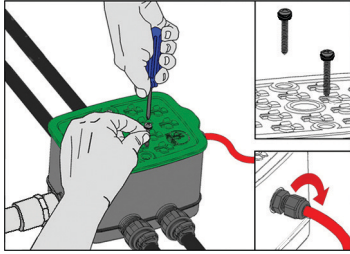

Fig 5
7. Arrange connectors and wires to allow proper closure of the lid. Push the lid (b) in place, making sure the “O” ring seal and seat are clean to ensure sealing. Insert and tighten the lid screws (a), checking that the rubber washers are in place on the screws to maintain a seal (Fig 5).